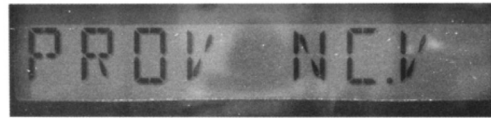

Figure 7 - LCD screen changes to **PROV NC.V**
- Swipe the magnet across the black dot until the screen displays **PROV NC.V** (Figure 7), and then stop swiping.